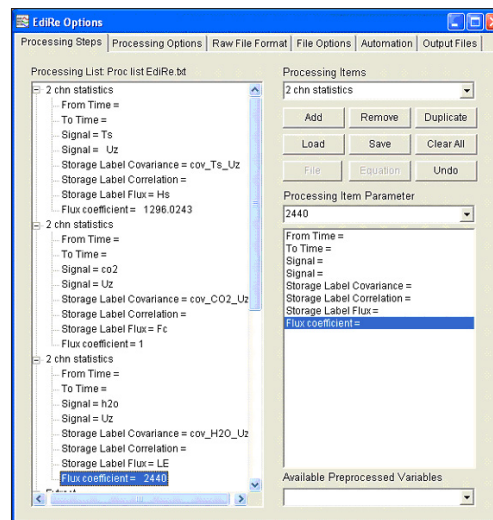

Figure 18: A flux coefficient of 2440 is entered.
25. Add additional “Processing Items” to compute additional covariances and fluxes. The example also computes $\text{cov}(\text{CO}_2, U_z)$, labeled $\text{cov_CO}_2_U_z$, and carbon flux F_c , as well as the $\text{cov}(\text{H}_2\text{O}, U_z)$, labeled $\text{cov_H}_2\text{O_U}_z$, and latent heat flux LE . The estimated latent heat of evaporation 2440 J g^{-1} was used in computation of LE (Figure 18).